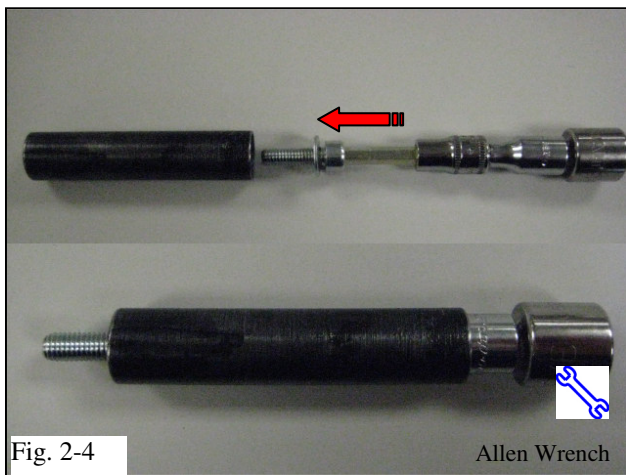

Fig. 2-4
- (e) Insert the Allen bolt and washer into the front attachment sleeve using the ¼ Drive 5 mm Hex (Allen) socket, ¼ Drive extension and ¾ to ¼ adaptor. (Fig. 2-4)